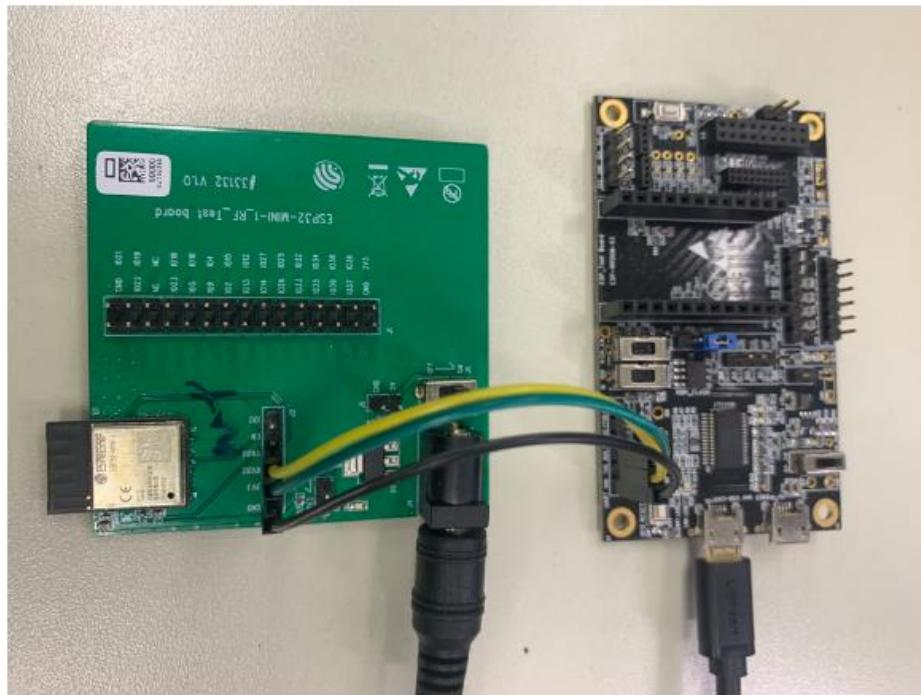

Figure 2: Hardware Connection
- a. Solder the WT1000R module to the RF testing board as shown in Figure 2.